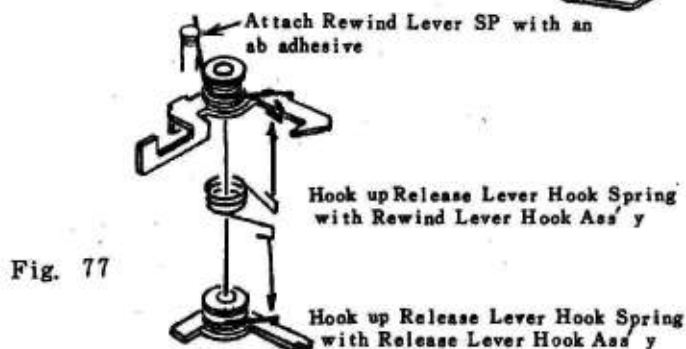
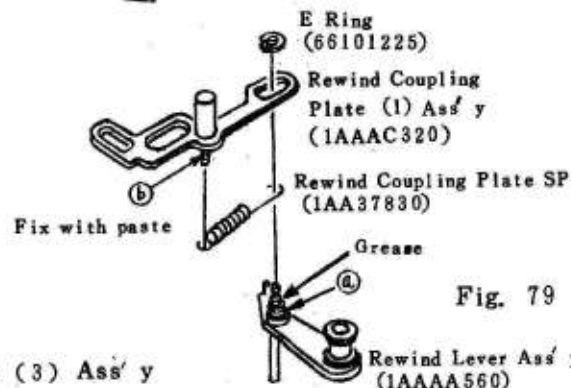

Fig. 77
Fig. 79
8. Install the Winding Gear (10) (1AA36020).
12. Install the Rewind Lever Hook Ass'y (1AAAA690), and hook up the Release Lever Hook Spring with both the release Lever Hook Ass'y and the Rewind Lever Hook Ass'y. (See Fig 77)
13. Install the Rewind Lever Hook Spring (1AAAA690), hook up the both ends with Rewind Lever Hook Ass'y and the post respectively and attach with an adhesive (Cemedine 551A). (See Fig. 77)
14. Install the Rewind Coupling Plate (2) Ass'y (1AAAA500).
15. Install the Rewind Coupling Plate (1) Ass'y to the Winding Unit Sub Ass'y.
Note : After install the Rewind Lever Ass'y (1AAAA560) to the Rewind Coupling Plate (1) Ass'y (1AAAC320), fit it to the Winding Unit Sub Ass'y. (See Fig. 79)
- ① Hook the Rewind Coupling Plate Spring (1AA37830) with the Rewind Lever Ass'y..... ①.
- ② Install the Rewind Coupling Plate (1) Ass'y to the Rewind Lever Ass'y, and secure it with the E Ring (66101225).
- ③ Hook the Rewind Coupling Plate Spring with the Rewind Coupling Plate (1) Ass'y..... ②.